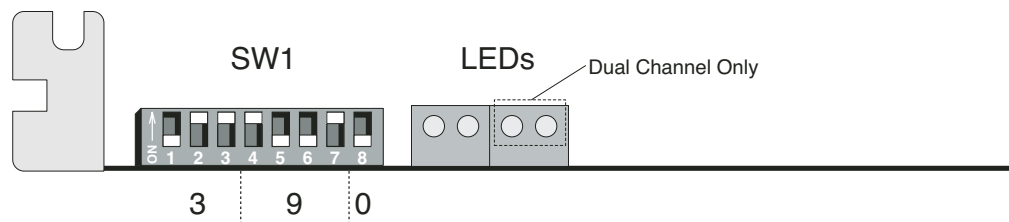
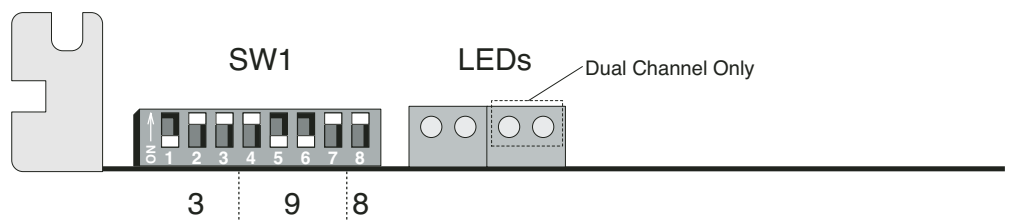

Figure 9.2.3: PC3 Base I/O Address 390h (Top View as Installed)
Figure 9.2.4: PC3 Base I/O Address 398h (Top View as Installed)
Base I/O Address Table 9.2.1 lists the SW1 settings for base I/O address 390h. Figure 9.2.3 and Figure 9.2.4 illustrate the respective SW1 settings for base I/O addresses 390h and 398h.
2. Set SW1 positions 1–8 to the base I/O address you identified on page 11. Figure 9.2.3 and Figure 9.2.4 illustrate the switch settings for base I/O addresses of 390h and 398h, respectively.
Note: The values represented in Figure 9.2.3 and Figure 9.2.4 are for illustration only and do not necessarily represent a valid base I/O address for your system.